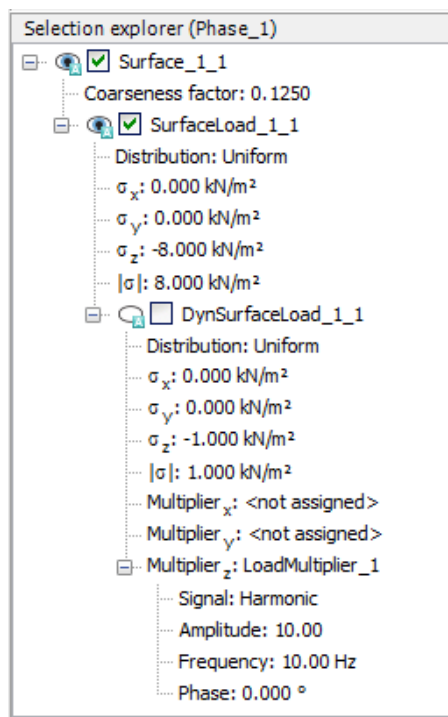

Figure 129: Applied load in the Phase_1
2. In the **Staged construction mode**, as displayed on Figure 129 (on page 156), activate the static component of the surface load. Do not activate the dynamic load.